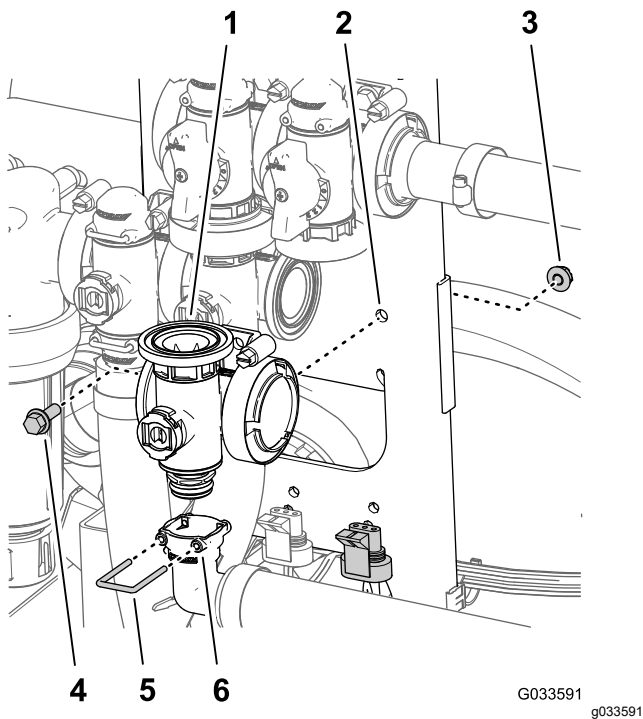

Figure 118
- Remove the retainer that secure the 90° outlet fitting to the manifold coupling for the master-boom valve (Figure 118).
3. Remove the flange-head bolt (1/4 x 3/4 inch) and flange locknut (1/4 inch) that secure the master-boom valve to the valve mount and remove the valve manifold from the machine (Figure 118).